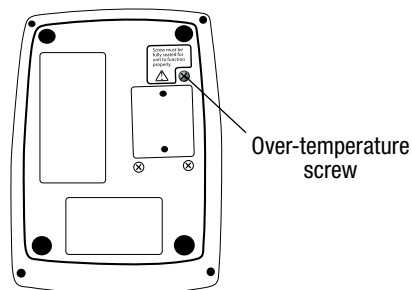

Fig. 3: Ranger warming unit over-temperature screw
- Loosen the over-temperature screw on the bottom of the Ranger warming unit (see Fig. 3). Listen for a slight click as the microswitch opens. **Loosen ½ turn more.** This unit is now in over-temperature test mode, and the temperature output of the unit should begin to rise. When the Ranger display reads 43°C, verify that an audible alert sounds, the alert light illuminates, and the display alternately flashes "HI" and the plate temperature.